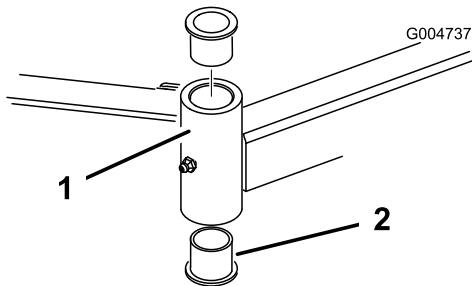

Figure 25
4. Insert a pin punch into the top or bottom of the mounting tube and drive the bushing out of the tube (Figure 25). Also drive the other bushing out of the tube. Clean the inside of the tubes to remove dirt.